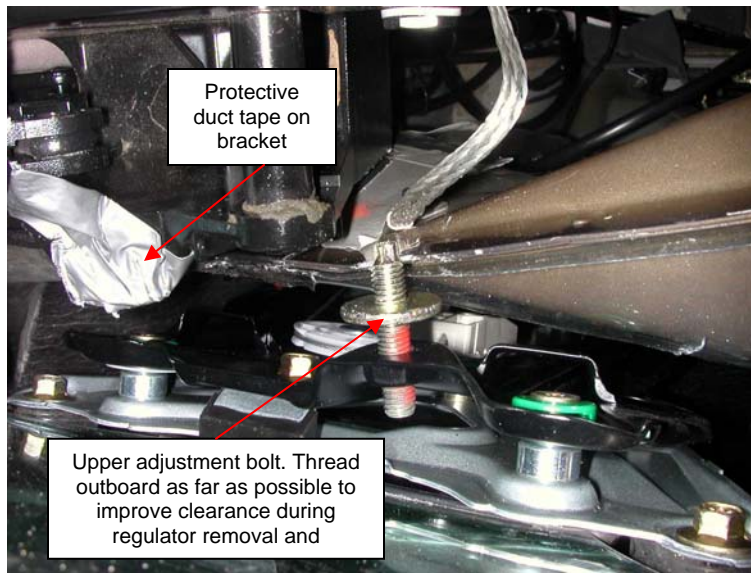

Fig. 20 Close up of upper adjuster bolt
15. Thread the upper adjuster bolt fully outboard (see Fig. 19). This eases removal in the regulator in the limited space available. The small piece of protective duct tape in Fig. 20 sits on the protruding portion of the convertible top bracket that causes the interference if the bracket is not first loosened and pushed inward.